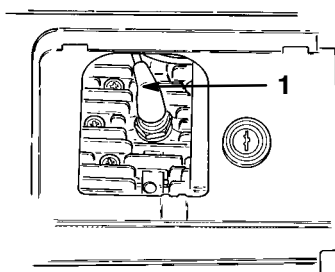

Figure 13
5. Disconnect the wire from the spark plug (Fig. 13).
4. Disconnect the wire from the spark plug and remove the spark plug (Fig. 13).